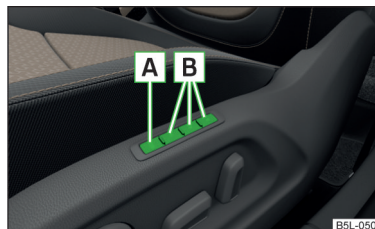

Fig. 63
Each of the three memory buttons **B** » Fig. 63 can be assigned a set position.
- ▶ Press the **SET** button (Position **A** » Fig. 63).
- Press the required memory button **[B]** » Fig. 63.
- Press and hold the desired memory button **[B]** » Fig. 63 for a short while.
- Press and hold any memory button **[B]** » Fig. 63 on page 76.
- Press the **SET** button (Position **[A]** » Fig. 63 on page 76) and hold.